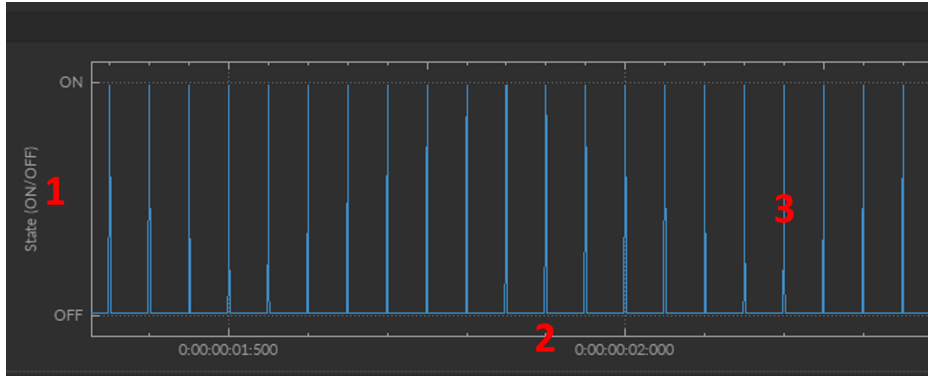

Figure 8.33: Digital I/O(s) View - Graph
1. The **Y-axis** (Fig. 8.33, 1) displays the Digital **State** of the channel, which can be either ON (1) or OFF (0).
2. The **X-axis** (Fig. 8.33, 2) displays the time in d:hh:mm:ss:zzz.
3. The **Trace** (Fig. 8.33, 3) can be edited by selecting the **Graph** button in Section 8.5.1.1, no. 3.